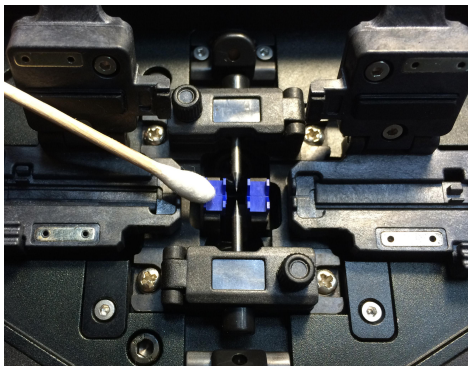

Fig. 4-1 Cleaning V-grooves
(1) Open the wind protector and fiber clamps.
(2) Clean the bottom of the V-groove with an alcohol-impregnated thin cotton swab as shown in Fig. 4-1. Remove excess alcohol from the V-groove with a clean dry swab.